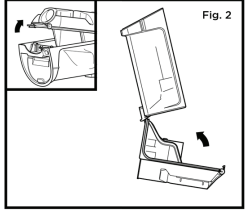

Fig. 2
- Press the Dust Cup Empty button to open the dust cup lid. (Fig.2).